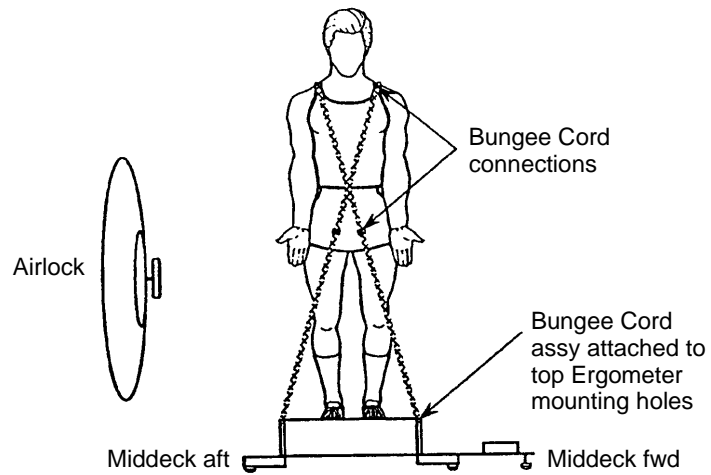

Figure 3-4.- Alternate exercise bungee attachments – front view (facing stbd).
3. Attach Bungees to opposite corners of Ergometer frame, crossing Bungees over shoulders (see figs 3-4, 3-5)